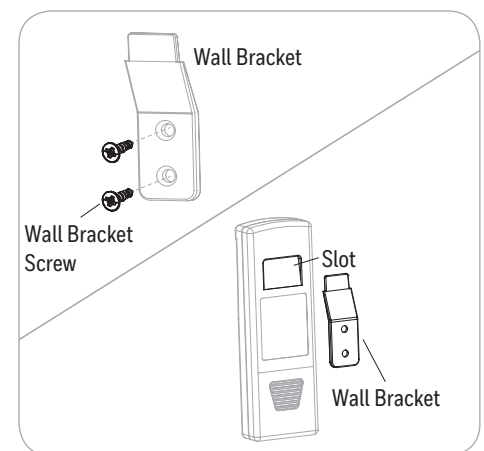

Figure 5.9
- (Optional) If you wish to install the wall bracket for the remote, insert the two screws through the wall bracket and into the wall. Once the wall bracket is installed, hang the slot in the back of the remote over the top of the wall bracket (Figure 5.9). Turn on power to fan at breaker box and the wall switch. Assembly is complete.